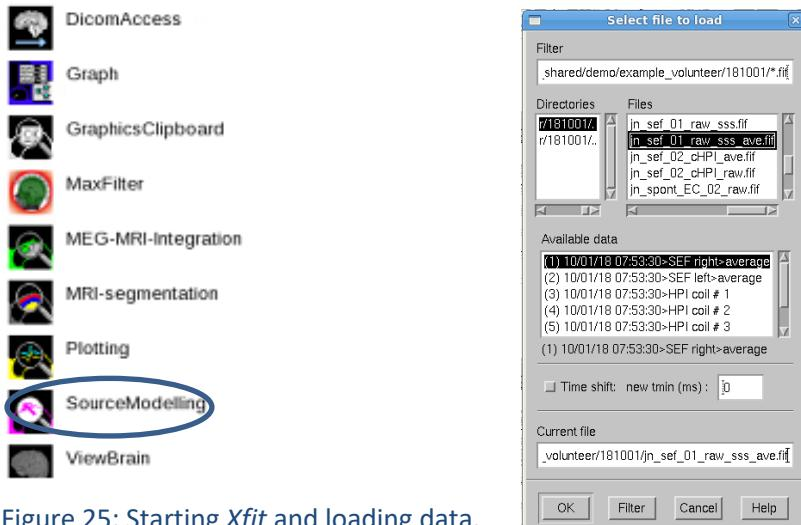

Figure 25: Starting Xfit and loading data.
- Select Applications -> Neuromag toolbox -> SourceModelling (Figure 25).